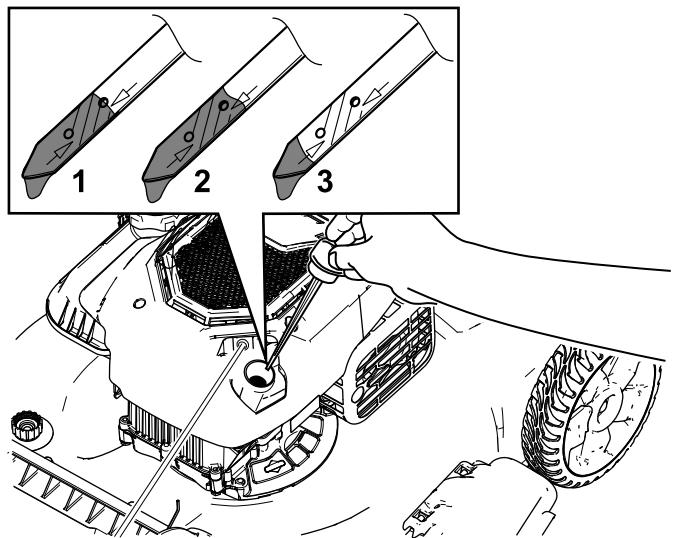

Figure 12
2. Remove the dipstick by rotating the cap counterclockwise and pulling it out (Figure 12).
5. Read the oil level on the dipstick (Figure 12).
- If the oil level on the dipstick is too low (Figure 12), carefully pour a small amount of SAE 30 or SAE 10W-30 detergent oil into the oil-fill tube, wait 3 minutes, and repeat steps 3 through 5 until the oil on the dipstick is at the correct level. For the oil type, refer to Changing the Engine Oil (page 19).
- If the oil level on the dipstick is too high (Figure 12), drain the excess oil until the oil